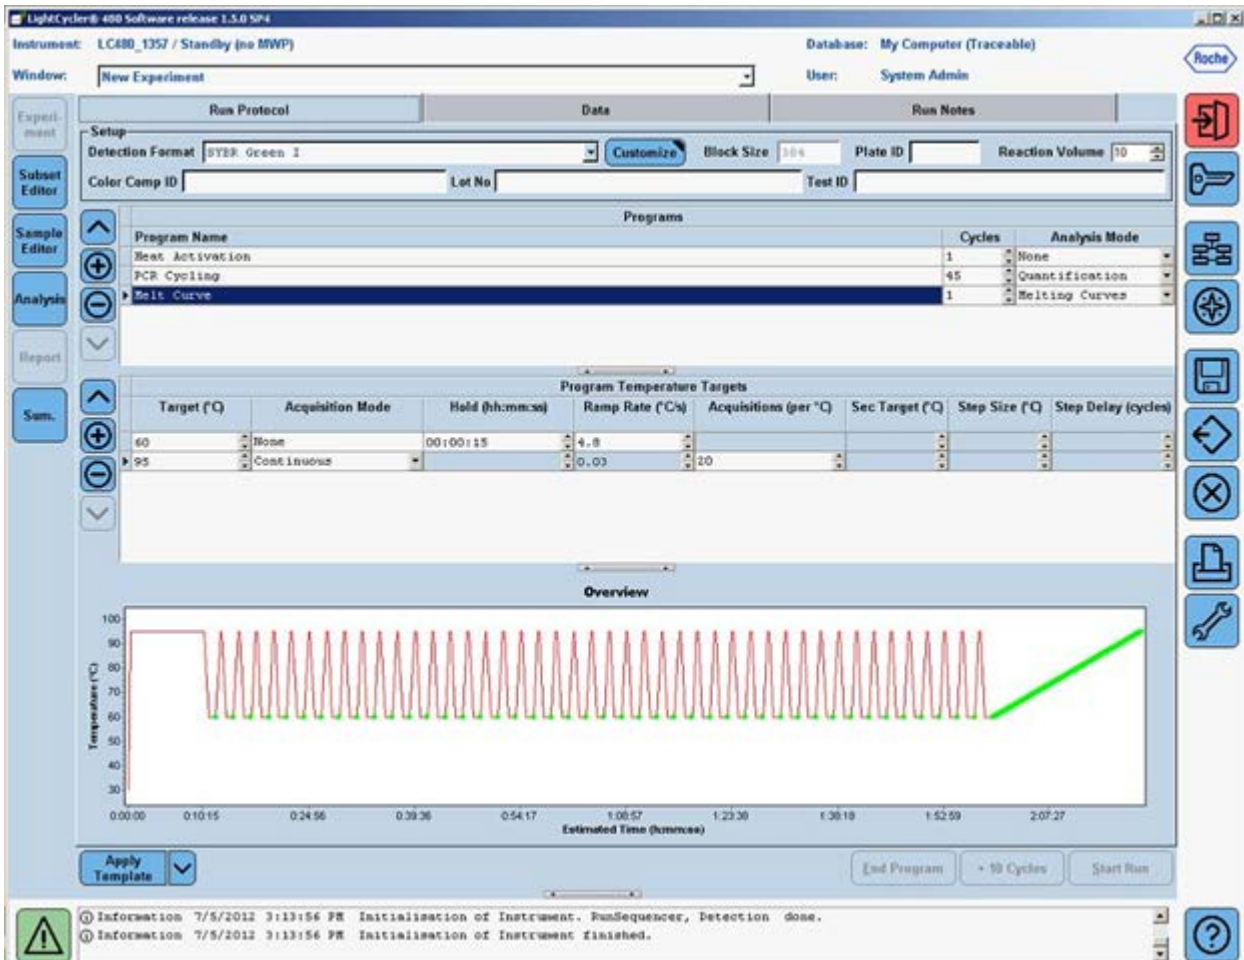

Figure 5. Setup of the third program — “Melt Curve.”
- Click to change the “Program Name” of the third program to “Melt Curve.” Leave “Cycles” at “1” and change “Analysis Mode” to “Melting Curves.” In the “Temperature Targets” section, click the  button once to add one more temperature target line. Enter the values for the following parameters (Figure 5):